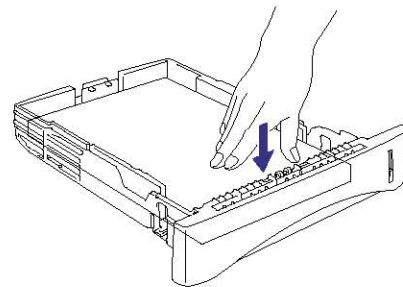

Fig. 2-20
- (3) Load paper. Check that paper is flat in the cassette at all four corners. (Fig. 2-20) Paper should be loaded up to the lines on the sliding guide.
- (4) Re-install the paper cassette into the printer.